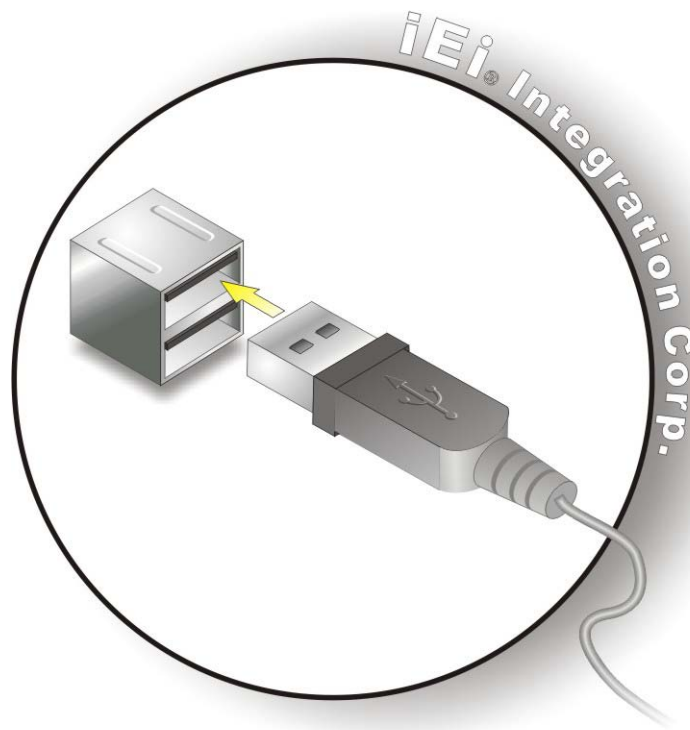

Figure 4-6: USB Connector
Step 2: Insert a USB Series "A" plug. Insert the USB Series "A" plug of a device into the USB Series "A" receptacle on the external peripheral interface. See **Figure 4-6**.